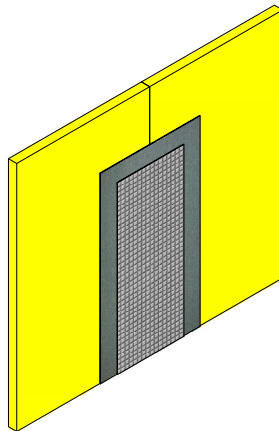

Figure 2
2. Lay the Sheathing Fabric into the wet Finestop RA/RS/VB. (See Figure 2)